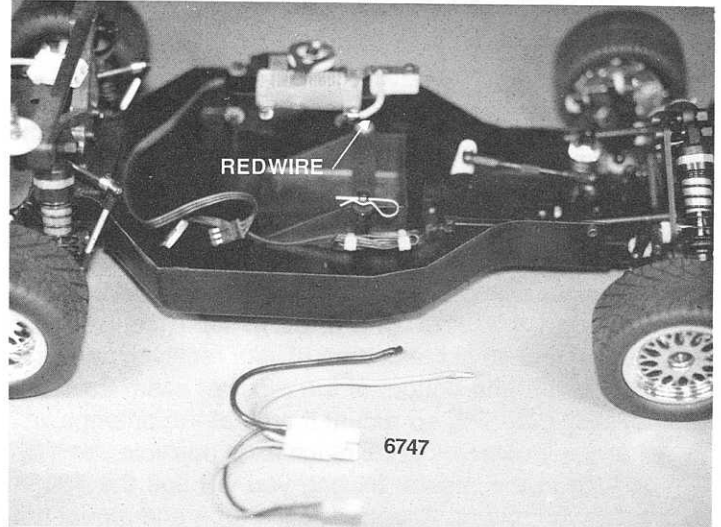
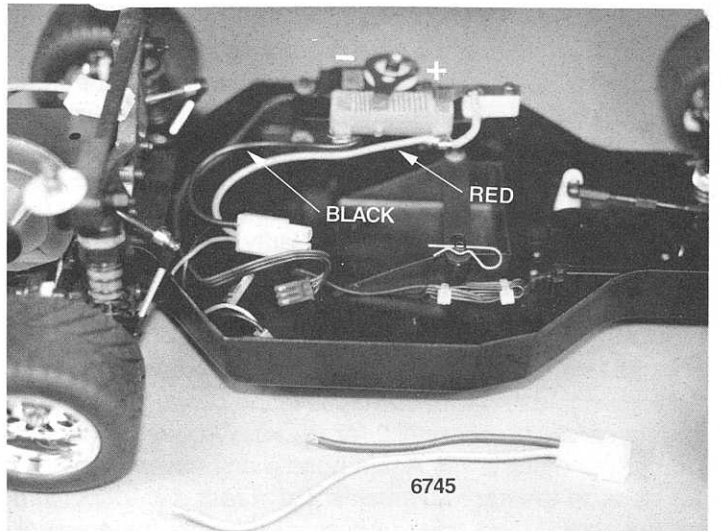
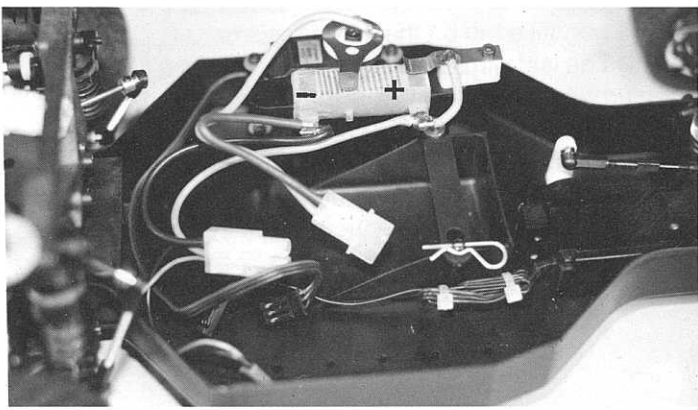

Fig. 143
Fig. 144
Fig. 145
□ **Figs. 143, 144 & 145** 1) Now we can begin to solder the wiring for the throttle resistor. In bag #8-13 you will find a small 2 inch piece of red 16 gauge wire. 2) Solder one end of this wire to the #6714 brass bypass tab and the other to the positive tab on the throttle resistor (at the front of the car) as shown. You can shorten the wire to make the installation look better.
3) Next remove the #6747 battery input power harness (with B.E.C. plug). Fig. 143 shows this harness laid out in front of the chassis. Fig. 144 shows it installed. Solder the large red
4) The last wire we need to take out is the #6745 motor output plug which is shown at the bottom of fig 144. We will solder the red wire to the #6714 wiper arm and the black wire to the negative tab on the resistor. Fig. 145 shows this plug harness installed. 5) After you have soldered the #6745 onto the wiper arm and resistor you can then plug it into the motor plug. Your throttle resistor is now installed. We will check out and make any adjustments in the final adjustments later in the manual.